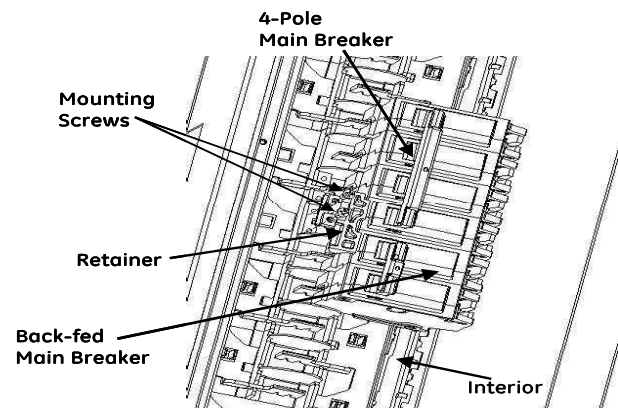

Figure 2: Main Breaker Retainer
2. Install the 2-pole back-fed main breaker in the position shown in Figure 2.